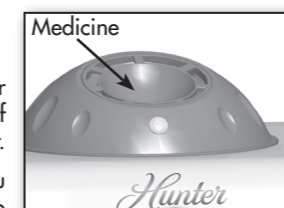

Figure 4.
6. When using vaporizer medications, fill the medicine cup on the steam unit as directed by the medicine package. Figure 4.